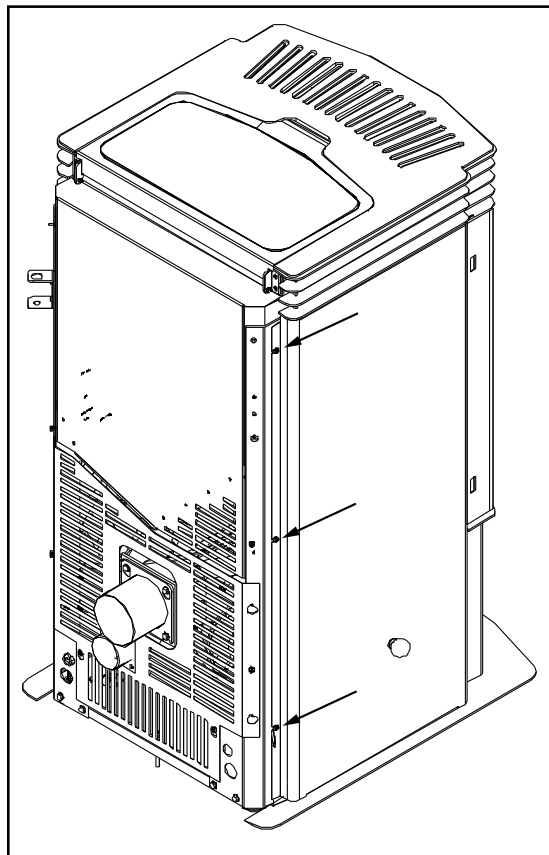
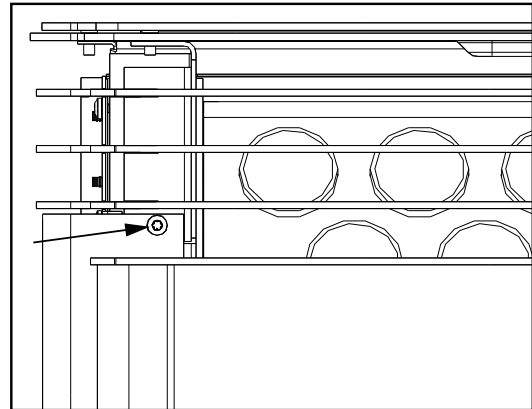
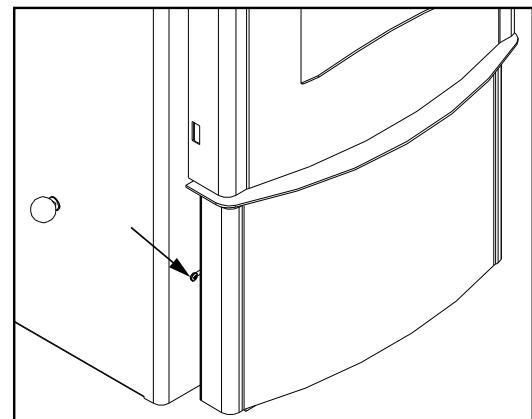

Figure 31: Screws at back of the cab side.
Figure 29: Screws above door top corner.
Figure 30: Screw behind ash box.
1. Remove the screws above the door on both sides (Figure 29).
2. Ensure the screws behind the ash box, one on each side (Figure 30) and the three (3) on each side at the back (Figure 31) are loosened.
3. Slide the three (3) slots at the back of the cab panels under the three (3) screws at the back.
2. Remove both cab panels. Remove the screws above the door on both sides (Figure 29) and ensure the screws behind the ash box, one on each side (Figure 30) and the three (3) on each panels at the back (Figure 31) are loosened. Slide the front of the cab panels out then slide the back of the cab panels out from under the three (3) screws at the back (Figure 31). Note: The slider knob will need to be removed if installed.